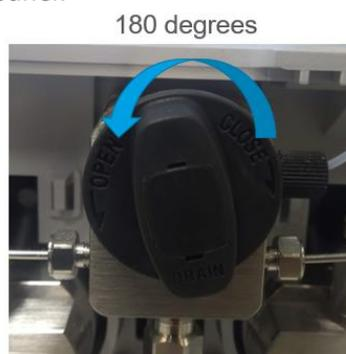

Fig. 20 Drain valve knob
Sometimes the displayed pressure in the pump needs to be zeroed. To do that, open the drain valve as shown in Fig. 20, to make sure there is no pressure in the pump.
- 3) Open the drain valve 180 degrees counter clockwise (see Fig. 20)